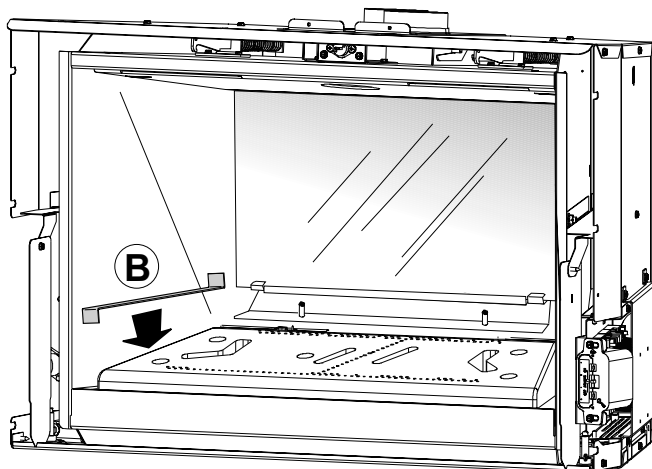

Figure 26. Install side panel shelves.
3. Place each Side Panel Shelf (B) on top of the steel spacer brackets between the burner and the side walls. Fig. 26.